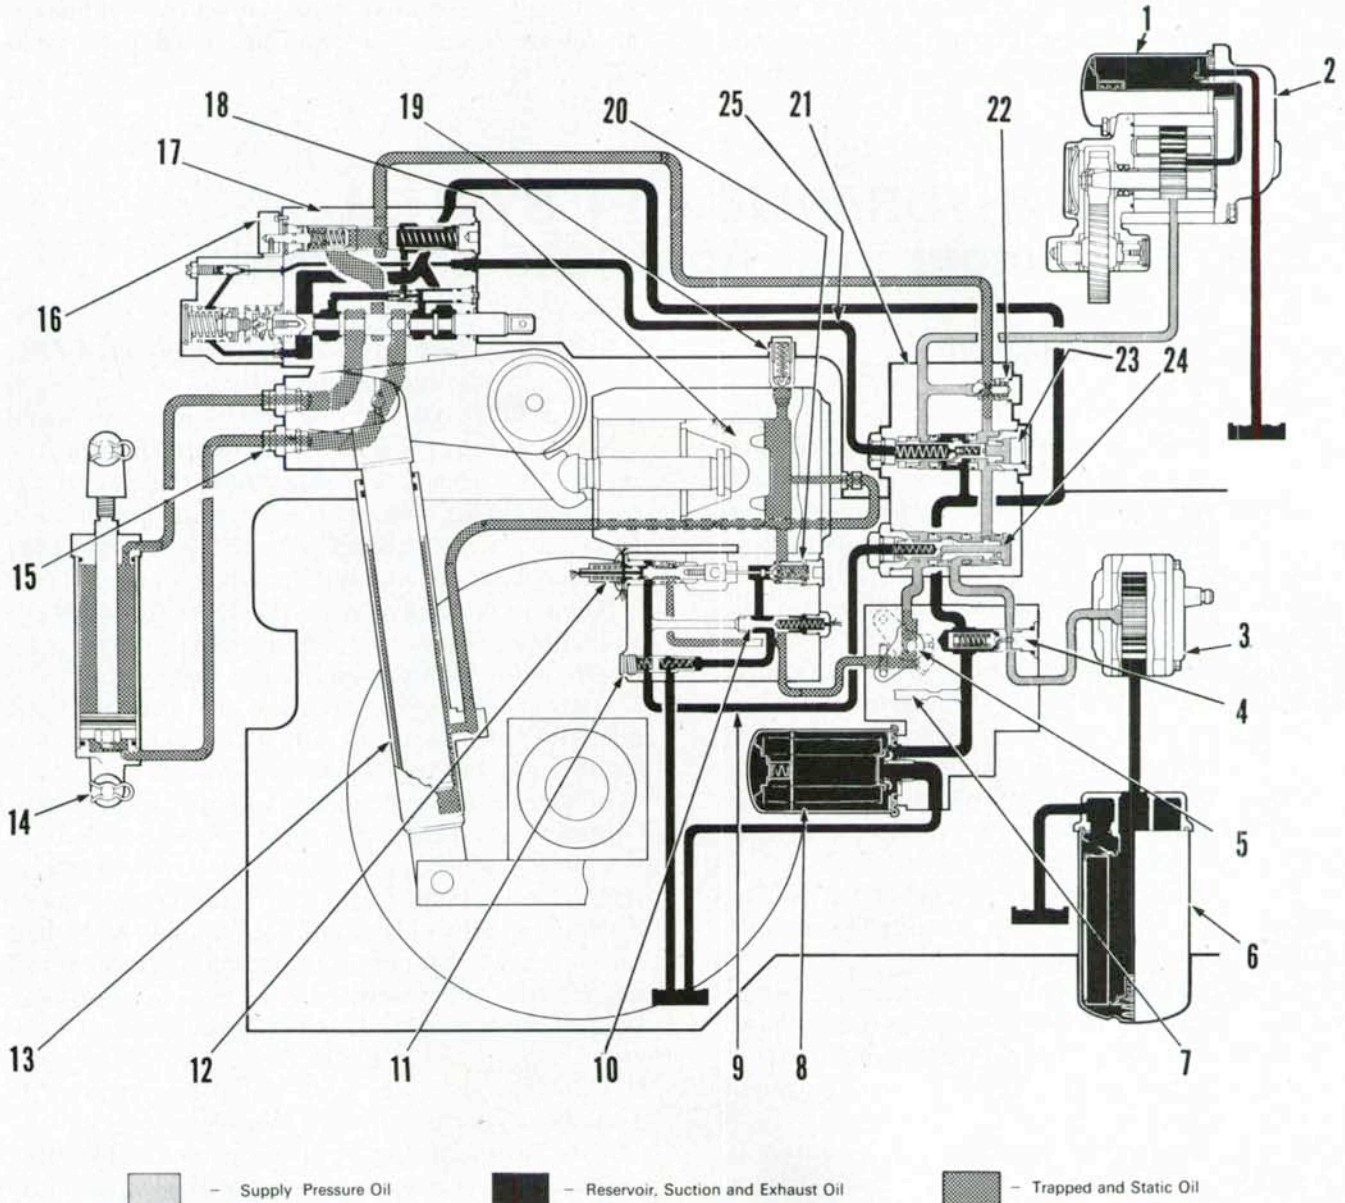

Fig. 302—Schematic of hydraulic system used on tractors built in April 1985 and after. System is shown in "neutral" position.
Refer to Fig. 302 for a schematic diagram of hydraulic system with lift control valve (12) in neutral position. Main hydraulic pump (3) pressure oil flows first across the system relief valve (4) located in pump mounting plate, then to the flow control valve (24) located in priority valve pack which is mounted on top of pump adapter plate. The flow control valve provides priority flow of main pump oil to hydraulic lift circuit, then directs remainder of main pump flow to remote valve circuit.